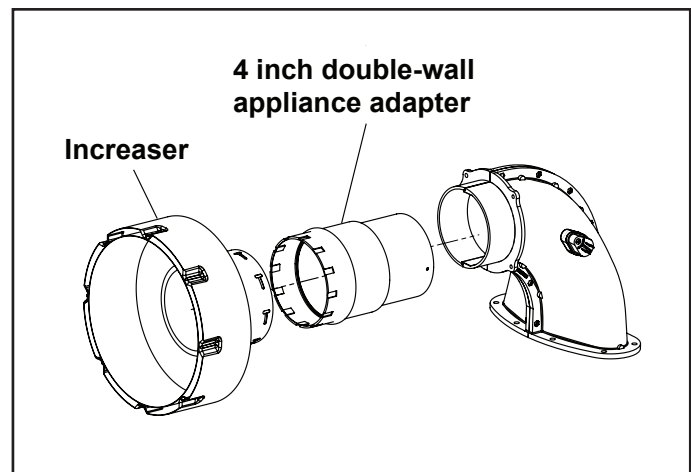

Figure 6. Category I Installation Configuration
3. **Category I:** Install a 4 inch double-wall appliance adapter and an increaser to meet the vent size requirements per Table 2. See “Figure 6. Category I Installation Configuration” on page 11.